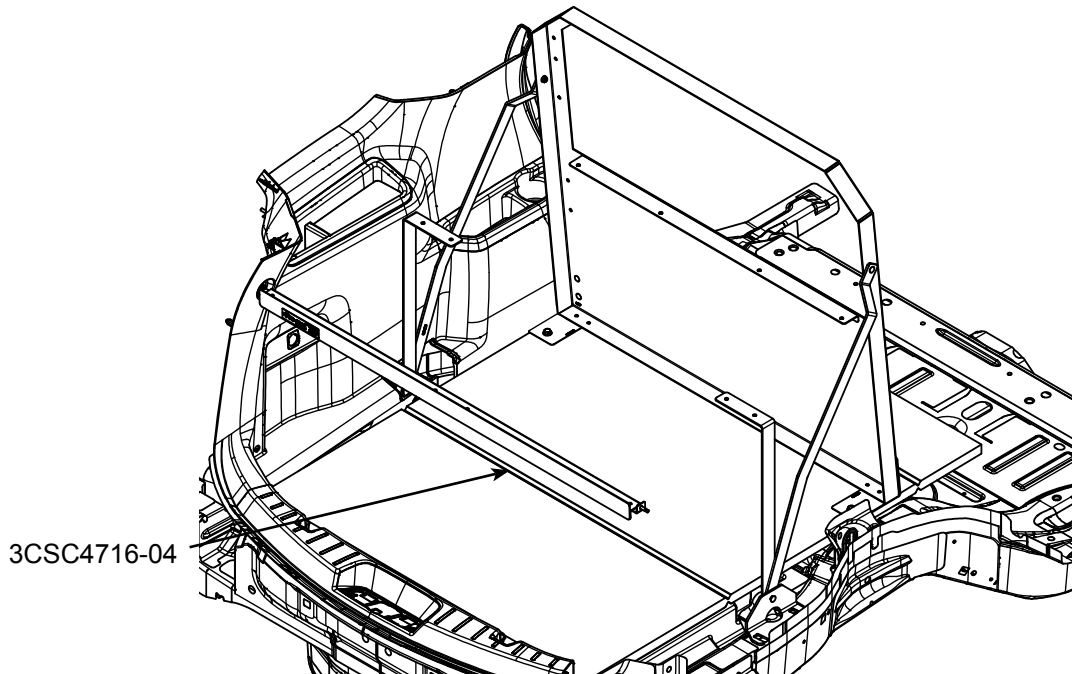

Figure 2
D. Now place the rear cross member 3CSC4716-04 into place over the tops of brackets 3CSC4716-03, making sure that the holes on each side of the parts align with one another. See Figure 2.